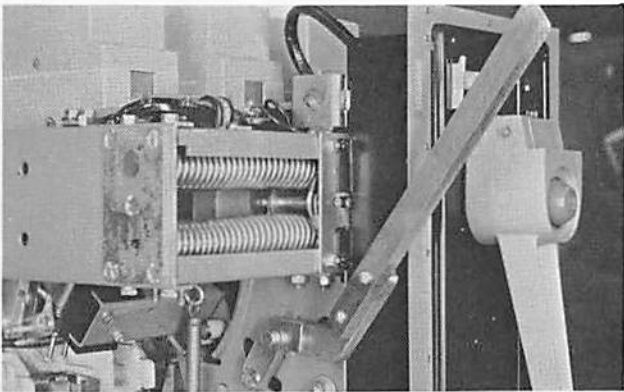

Figure 5
- Insert maintenance closing handle #1151-9252 as in Figure 5 and slowly operate until arcing contacts touch. All arcing contacts should make simultaneously with a permissible variation of $\frac{1}{32}$ max. Moveable arcing contact fingers should align with stationary arcing contacts. If misalignment or misadjustments are observed, refer to Part 4 — MAINTENANCE FOR ADJUSTING INSTRUCTIONS. Moveable arcing contacts are designed with side clearances for better guidance inside the arc chutes. A side to side movement of $\frac{1}{8}$ is allowable. Close breaker and check overtravel on main contacts.